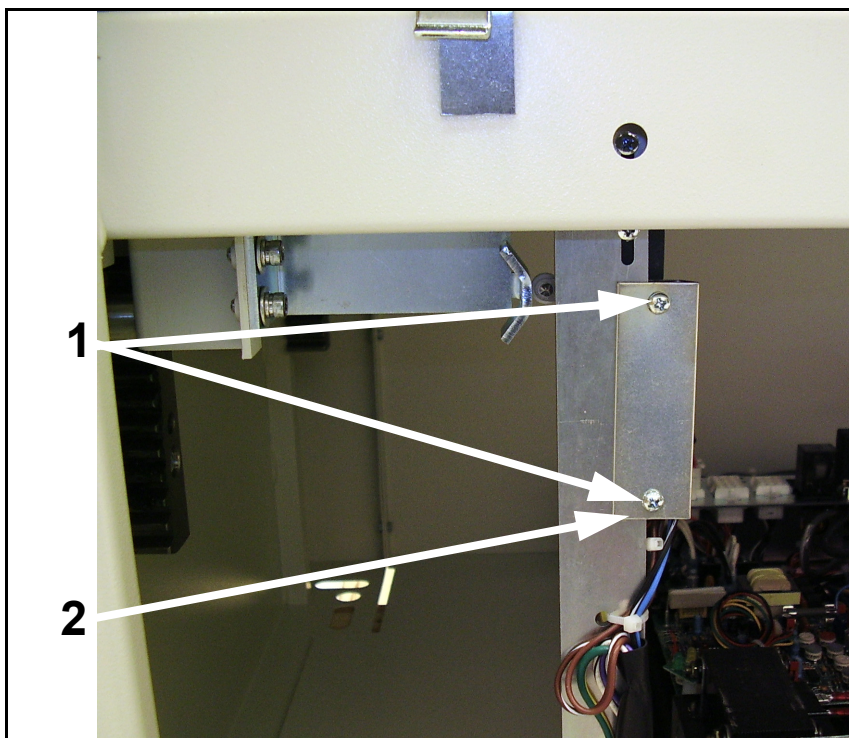

Figure 5-12. Cam Plate Position
- 4 Loosen the two clamp screws (1 in Figure 5-12), move the plate (2) to the desired position, and retighten the screws.